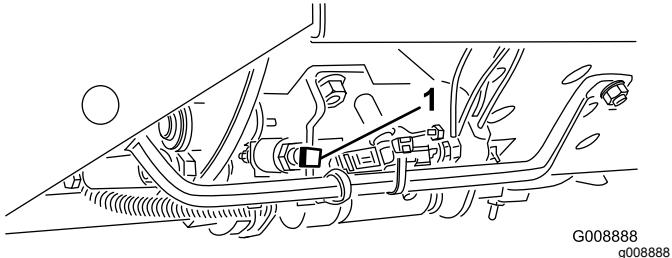

Figure 23
**Important:** The mow speed is set at the factory to 9.7 km/h (6 mph). It can be increased or decreased by adjusting the speed stop screw (Figure 23).